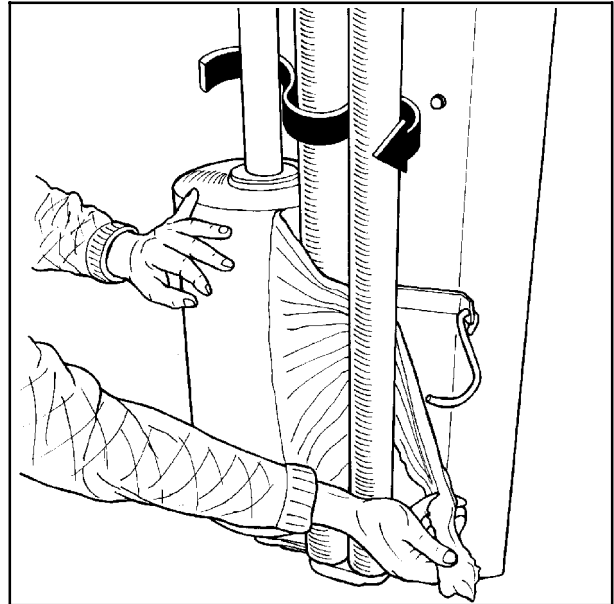

Fig. 6-2
6.3 Pull the film between the rollers on the prestretcher in the direction of the arrow. (See fig. 6-2). (See also the sign on the wrapping arm).